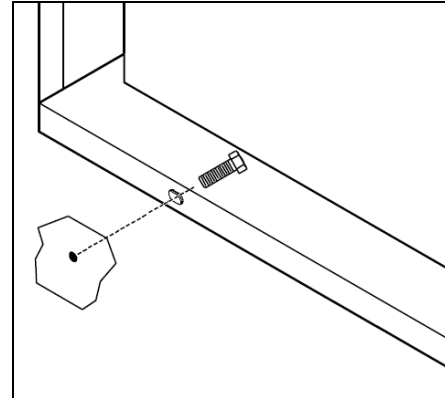

Figure 6: Wall Mounting without Bracket
2. Ensure the scoreboard is level, and secure it to the wall by attaching $\frac{1}{2}$ " mounting hardware through all obround holes on the bottom rear flange of the cabinet (**Figure 6**).
6. Secure the upper-most row of scoreboards to the wall by attaching $\frac{1}{2}$ " mounting hardware through all obround holes on the top rear flange of the cabinet (similar to the bottom flange attachment shown in **Figure 6**).